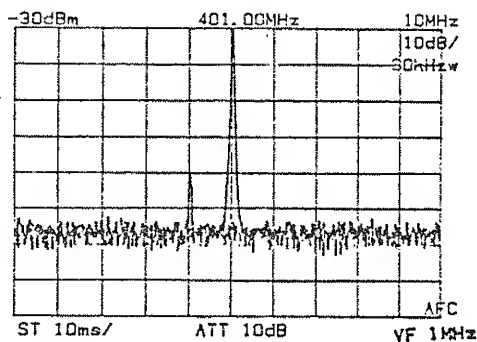

Figure 4-24 Two-Screen Display of Secondary Harmonic wave and STORE Waveform
- ⑥ Set the center frequency to 400 MHz and make the secondary harmonic wave move to the center of the screen. Then, the measured value can be read from the difference in display between the two screens. (Figure 4-24)